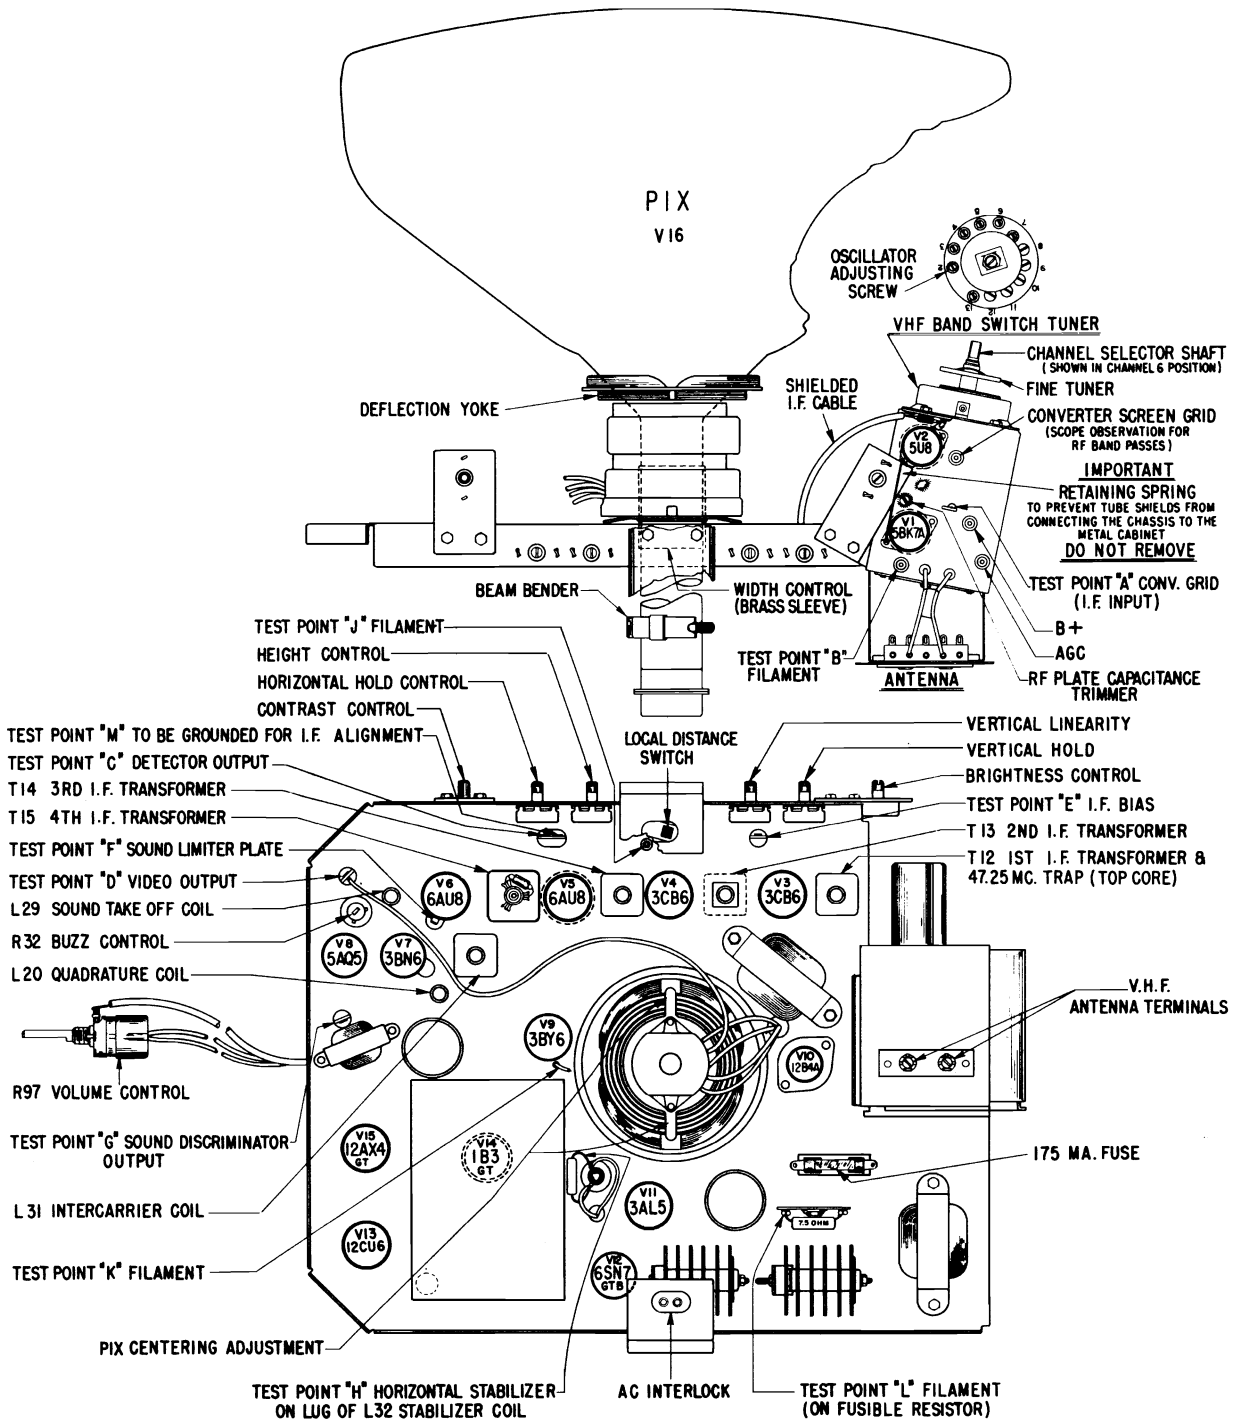

Fig. 4 Tube and Trimmer Layout 16T20 Chassis.
2. Connect a .5 mfd. capacitor between test point "H" (See Fig. 4) and chassis.